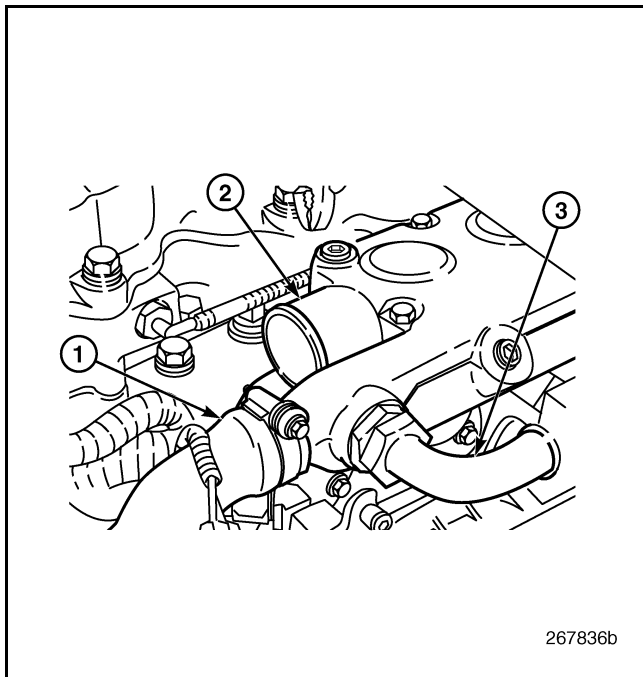

Figure 426 — Thermostat Housing Hose Connections
7. Reconnect the bypass and radiator hoses at the front of the thermostat housing (Figure 426) and reconnect the surge tank hose. Tighten all hose clamps to specifications.